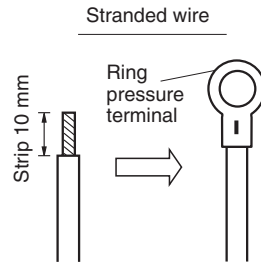
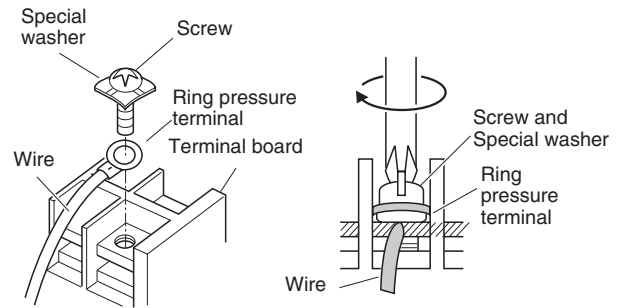

Fig. 1-5
Fig. 1-6
- (1) Cut the wire end with cutting pliers, then strip the insulation to expose the stranded wiring about 10 mm and tightly twist the wire ends. (Fig. 1-5)
- (2) Using a Phillips head screwdriver, remove the terminal screw(s) on the terminal board.
- (3) Using a ring connector fastener or pliers, securely clamp each stripped wire end with a ring pressure terminal.
- (4) Place the ring pressure terminal, and replace and tighten the removed terminal screw using a screwdriver. (Fig. 1-6)